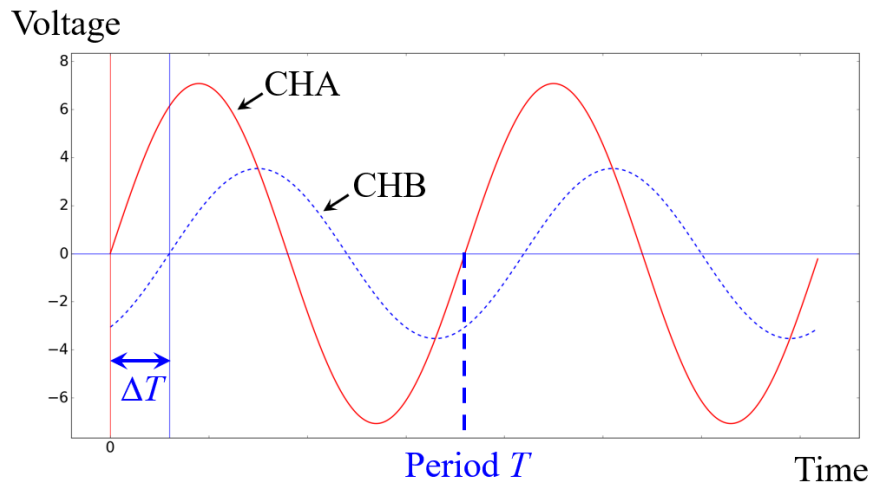

Figure 2: Phase measurement illustration
6. Next, we will perform measurements for V_C on CHB. Click on “CHB” in the “Channel Controls (7)” panel. Notice that the cursors now automatically jump to the max and min of CHB’s waveform. The peak-to-peak voltage of V_C is now shown in the **green** box directly underneath the dirty-green box. Calculate its amplitude and RMS values. Enter the above values into Table I as well.
7. We will now perform the phase angle measurement for V_C w.r.t. V_S (i.e., taking V_S as reference and assuming its phase angle is 0°). Figure 2 below explains how to tell whether a waveform is leading or lagging, and how to calculate its phase angle. In the example in Figure 2, CHA’s waveform passes the horizontal axis earlier than CHB’s waveform, meaning that CHB’s waveform is lagging CHA’s waveform. If CHA’s waveform is taken to be the reference with a phase angle of 0° , then CHB’s waveform has a phase angle of $-\frac{\Delta T}{T} \times 360^\circ$, where T is the period and ΔT is the absolute value of the time difference between the two waveforms. Now, drag one of the two vertical cursors to the peak of V_S ’s waveform, and the other vertical cursor to the nearest peak of V_C ’s waveform. Note down ΔT (can be read from the cyan colour box in “Cursor Measurements (5)” panel) in Table I, indicating whether V_C is leading or lagging, and calculate V_C ’s phase angle.